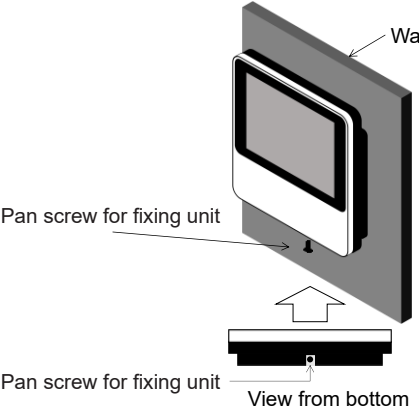

Fig. 3.4.8
- Once you have set the unit, secure it and the installation bracket using the fixing unit's pan head screw. Tighten the screw from the bottom up (Fig. 3.4.8).